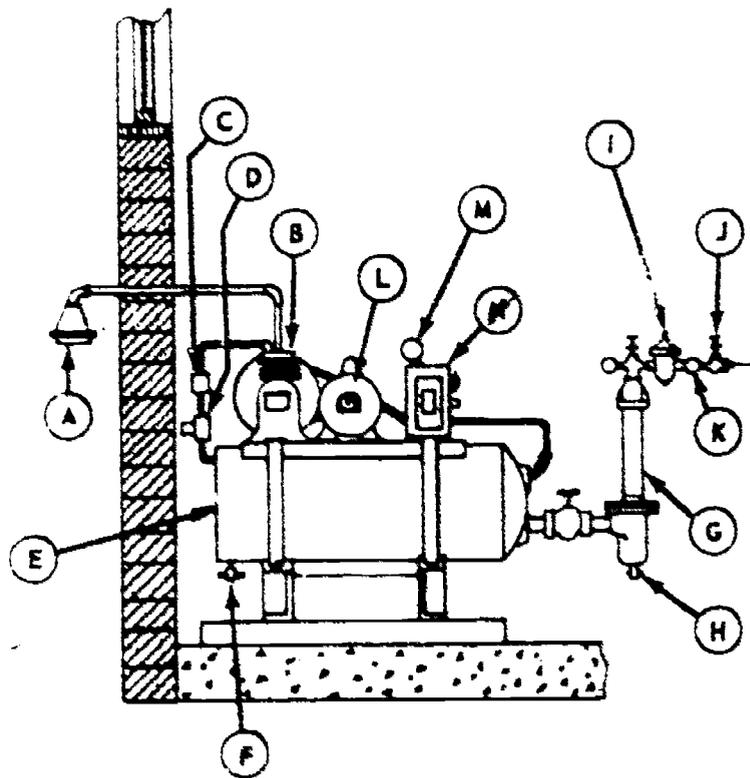

Figure 1. Air Compressing System
1. Identify each of the lettered items on figure 1 by placing their name and purpose in the following form beside the item letter.